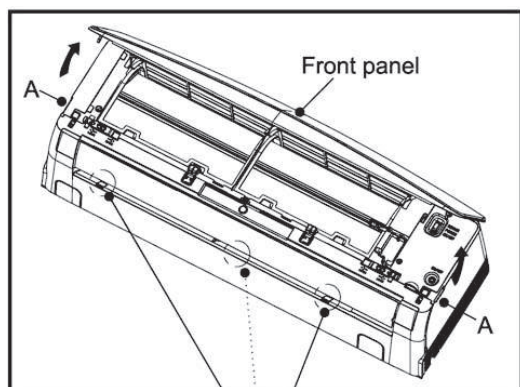

Fig. 9
- 2) In the A position, open the front panel as shown in Fig. 9.